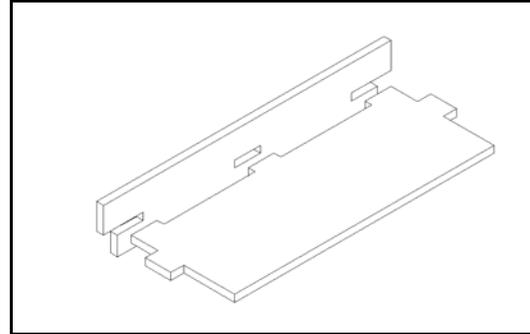
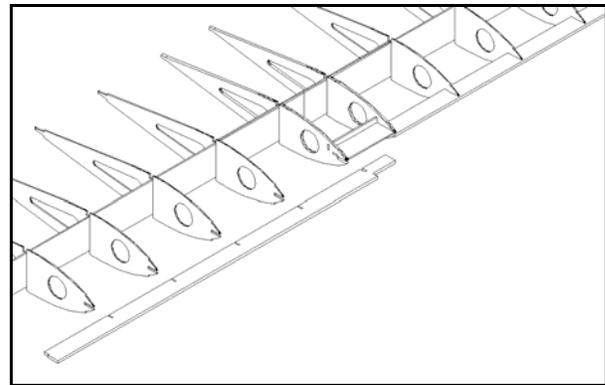

Figure 4
Figure 5
4. Join together parts P7 and P9, as in Fig. 4, and install between center ribs B1. (Fig. 5)
5. Install leading edge B2 (Fig. 5)